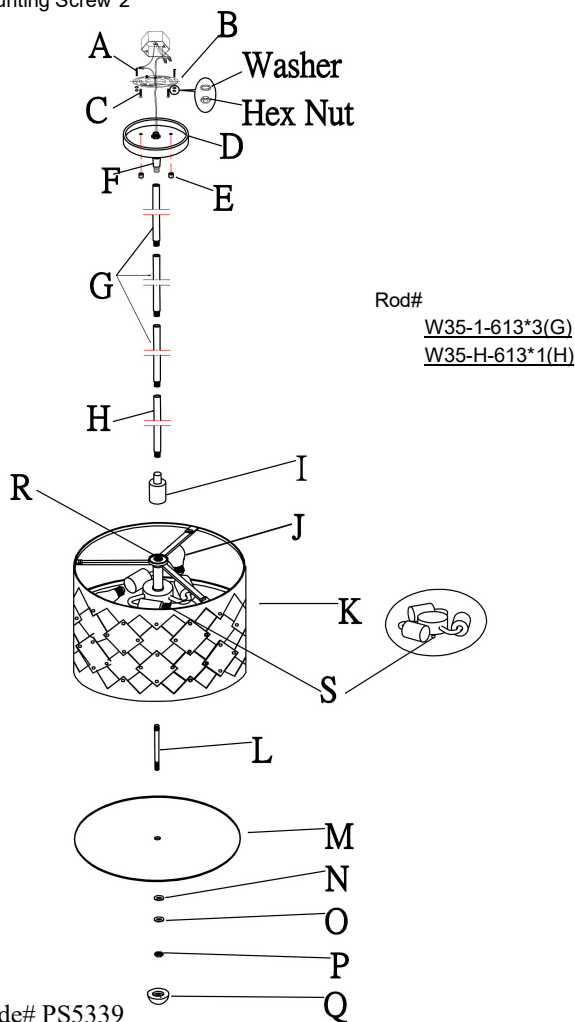

Fig.2
ASSEMBLING THE FIXTURE (Fig. 1&Fig. 2)
CONNECTING THE WIRES (Fig. 2)
8. Connect the electrical wires as shown in fig. 2, making sure that all wire connectors are secured. If your junction box has a ground wire (green or bare copper), connect the fixture's ground wire to it. Otherwise, connect the fixture's ground wire directly to the circular strap (B) using the green screw provided. Tuck the wire connectors neatly into the ceiling junction box.